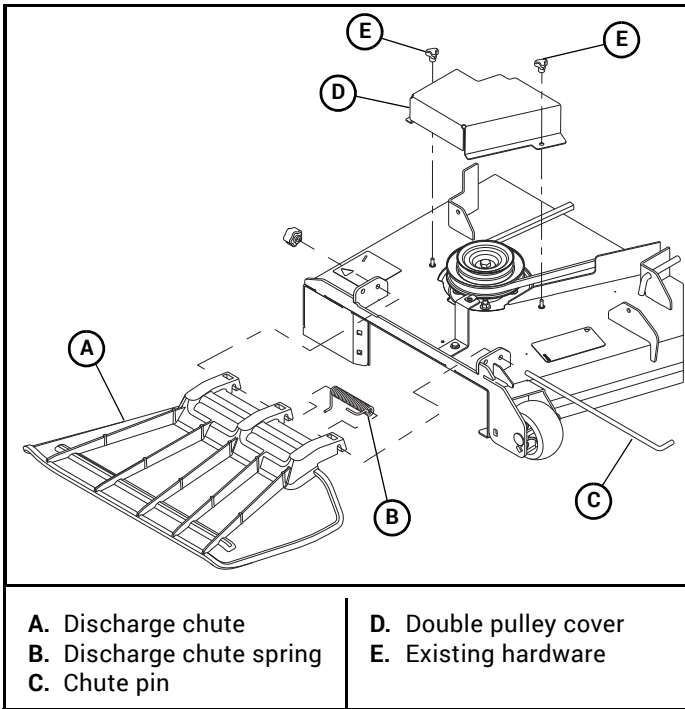

Figure 4-6
5. Install the double pulley cover using the hardware from the original pulley cover. Figure 4-6
6. Install the discharge chute. **IMPORTANT:** Make certain the discharge chute is lowered to the mowing position before mowing. Figure 4-6